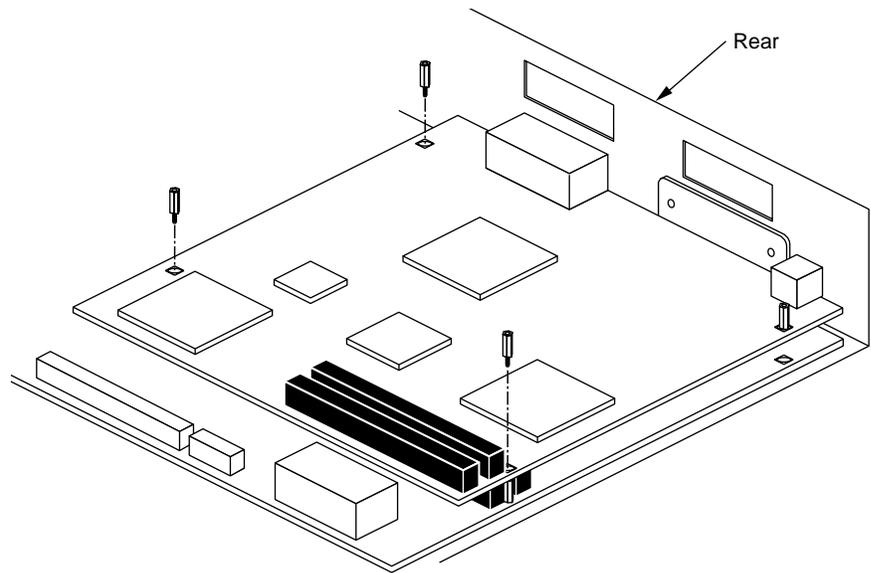

Figure 2-21 Inserting the Standoff Screws on the Z Board
- Using the open-ended wrench, insert and tighten the three standoff screws in the locations shown in Figure 2-21. As you tighten the screws, alternate among them so that the board is fastened evenly.